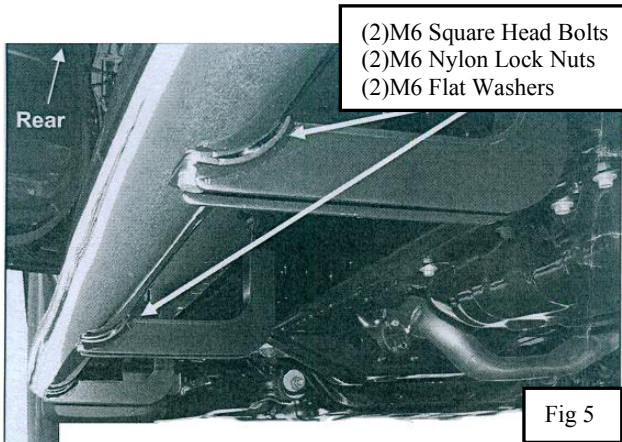

Fig 5
- With assistance, carefully place the Driver/Left Sidebar onto the (3) Brackets. **WARNING:** Do not rotate the Sidebar on the cradle or the finish on the Sidebar may be damaged. Align the threaded holes on the Mounting Brackets. Attach the Sidebar to the Mounting Brackets with the included(2)M6 Square Head Bolts,(2)M6 Nylon Lock Nuts and (2)M6 Flat Washers,(**Figure 5 & 6 & 7**),Do not tighten at this time.